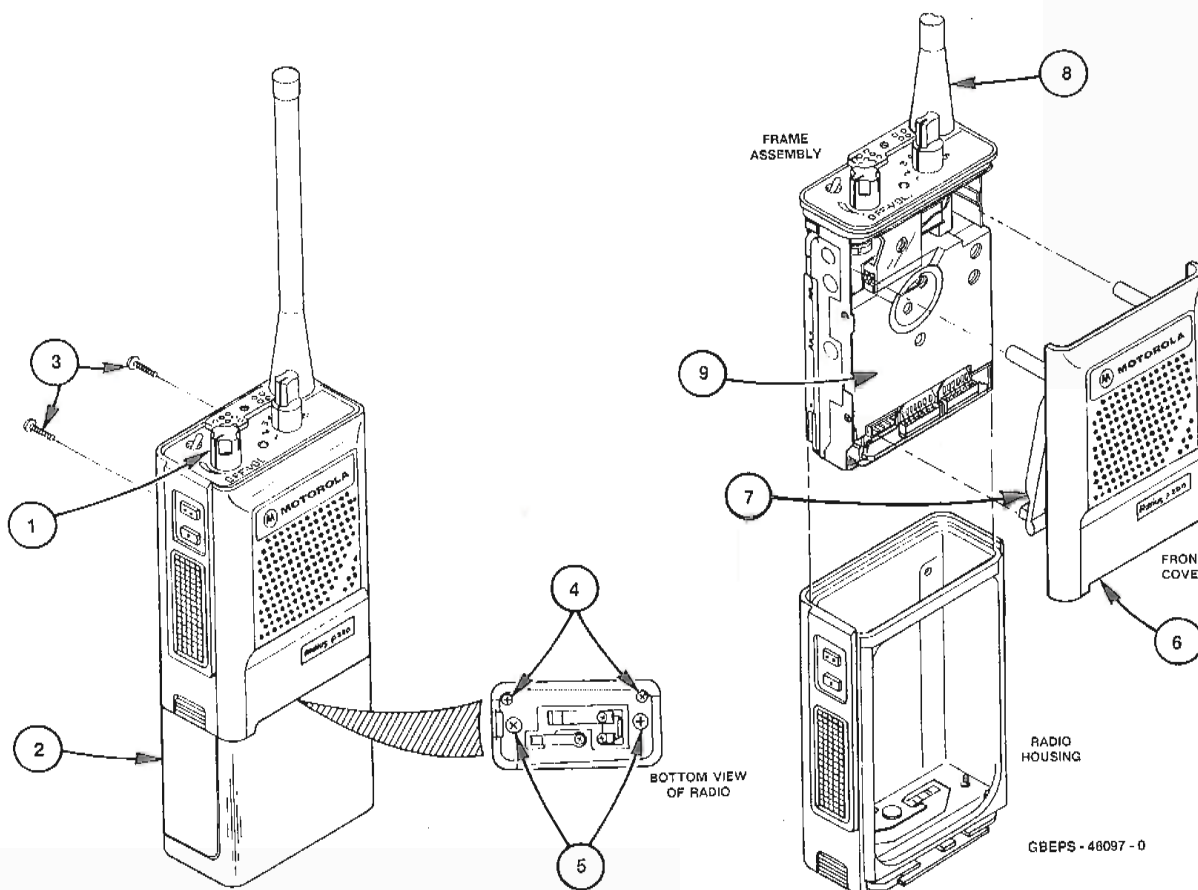

Figure 1. Disassembly Detail
3. DISASSEMBLY (Refer to Figure 1)
Disassembly of the radio involves removal of the major components listed below, one at a time, in the sequence described in the following paragraphs. In the following instructions, "item 1," "item 2," etc., refer to the items indicated by circled numbers in Figure 1.
4. REASSEMBLY (Refer to Figure 1)